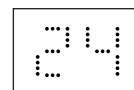

fig1
-In Celsius, the digital displays like fig 1. The range is 16-32 degrees.